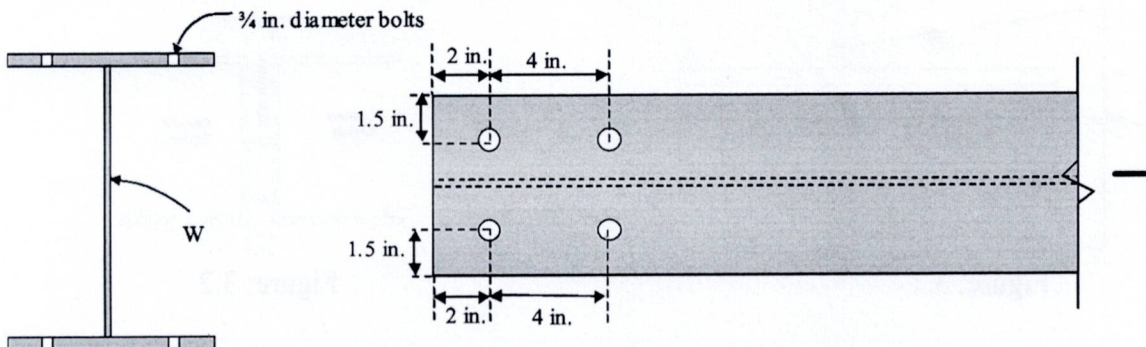

Figure: 6.1
6. (a) In Figure 6.1 the section is W8x10 with flange thickness= 0.205 inch, web thickness= 0.17 inch, depth= 7.89 inch, flange width=3.94 inch. Evaluate the tension capacity of the section (considering net section fracture strength and block shear rupture strength). The member is a wide flange connected through the flanges using eight 3/4 inch diameter bolts in two rows of four each as shown in the figure below. The center-to-center distance of the bolts in the direction of loading is 4 in. The edge distances are 1.5 inches and 2.0 inches as shown in the figure below. The steel material is A992.